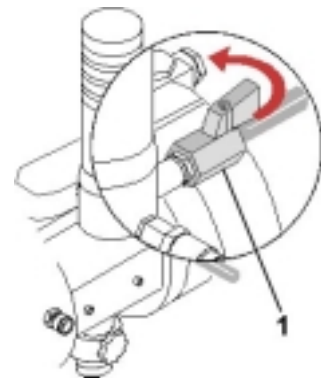

Fig.31
- 8) Once the air has stopped coming out of the discharge pipe, close the tap ❶ (fig. 31) so that the pump can reach its own static pressure balance.